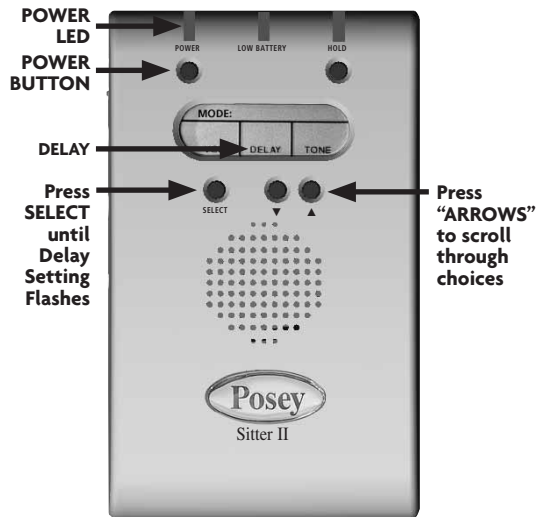

Fig. 6
1. Ensure the alarm is powered on and the sensor is attached to the alarm. The alarm should be in active monitoring mode (green LED light flashes above the POWER button, fig. 6). Place pressure on the sensor pad, connect the chair belt sensor or make sure the PIR sensor is activated.
2. Press the SELECT button until the delay time blinks (fig. 6).